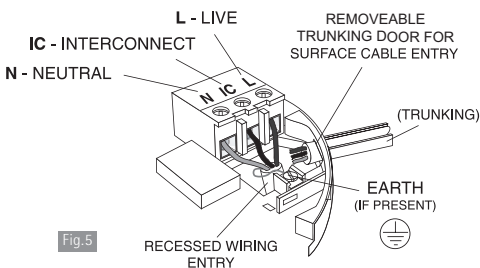

Fig.5
4. If the mains wires are recessed, bring the wires through the rear hole in the mounting plate as shown in Figure 5.
- (a) position the mounting plate so the cable trunking is as shown in Figure 5.